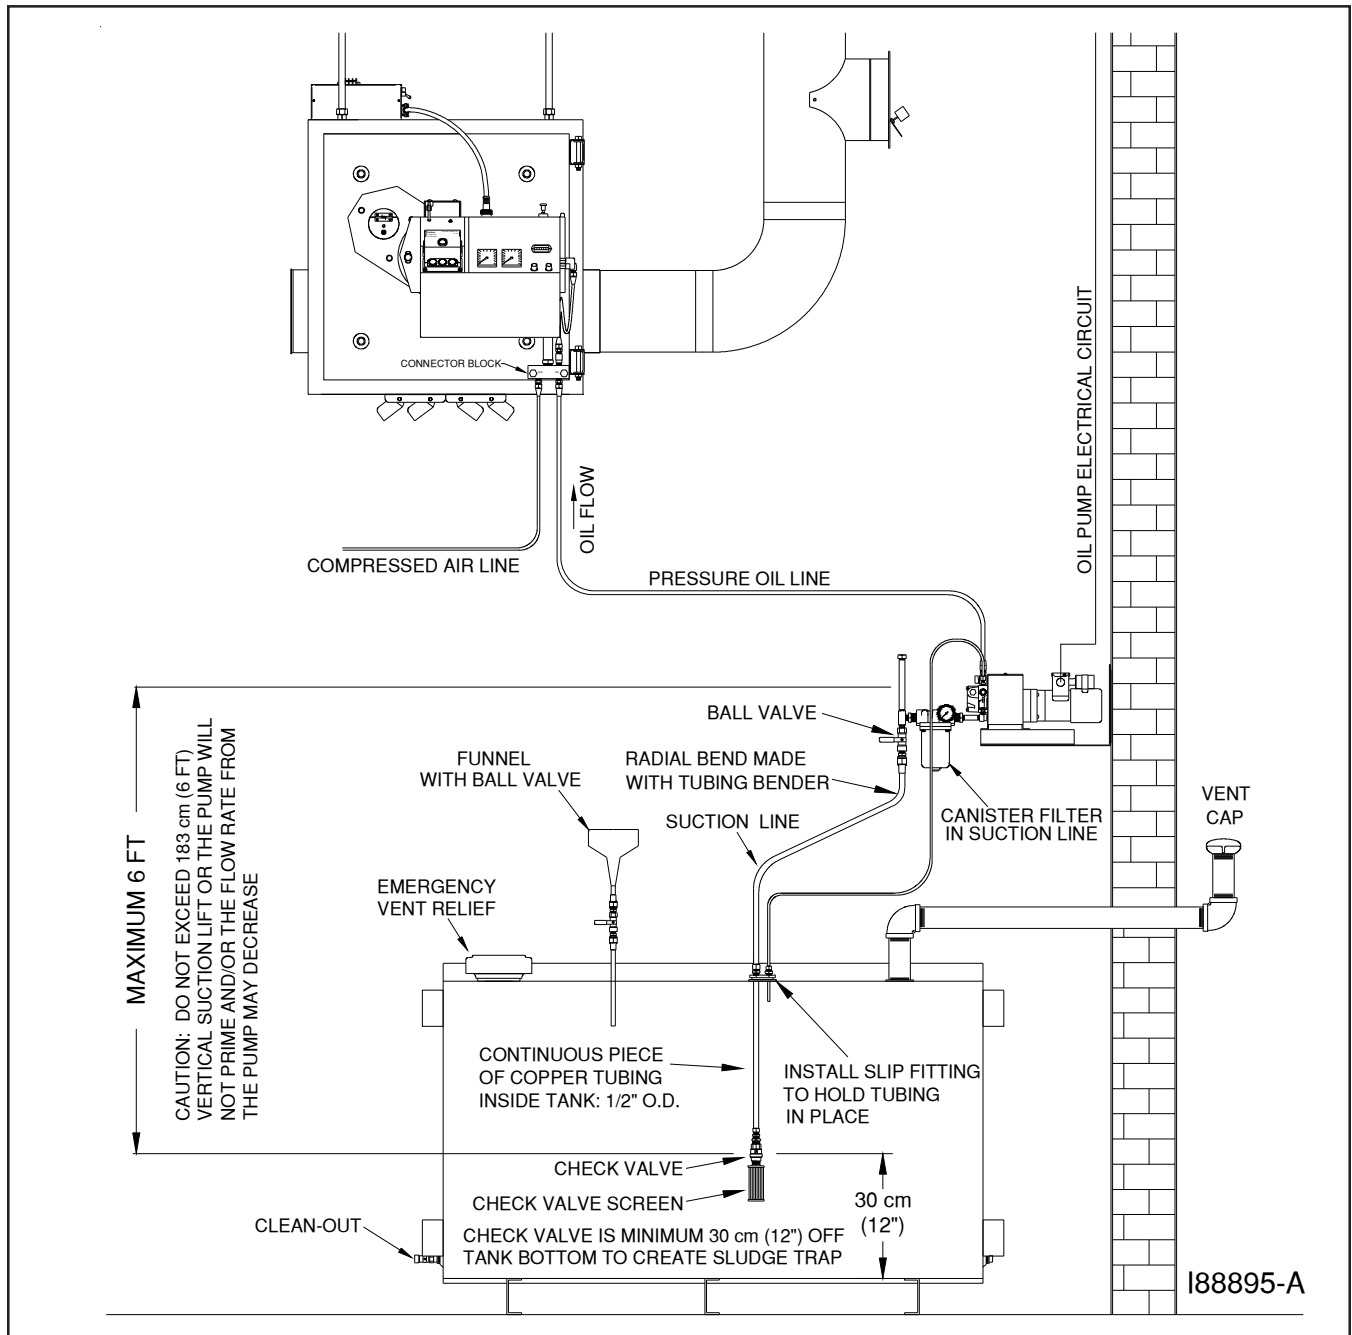

Figure 4J - CB-1500 Oil Line Installation Overview (CB-2500 is similar)
- u. Install a vent from the tank to the outside of the building according to code. The tank must be properly vented to allow air to enter the tank as oil is pumped out and to safely vent fumes to the outside. See Figure 4J.
4. Install 1/4" O.D. copper tubing (user-supplied) from the pressure relief port back to the oil tank. Refer to Figure 4J as needed.